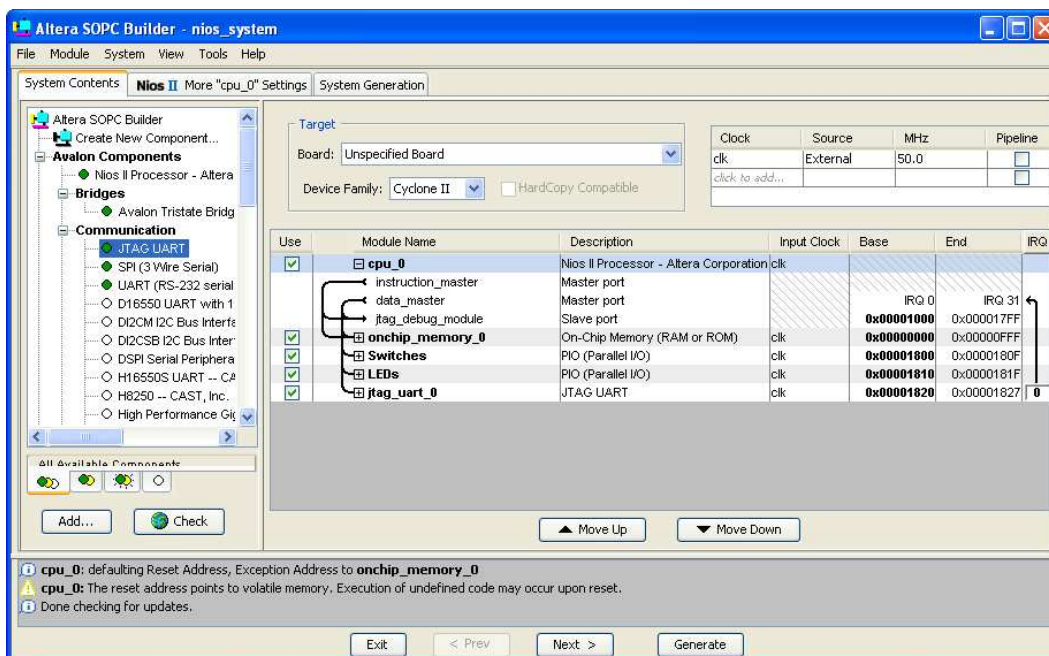

Figure 14. The final specification.
11. The base and end addresses of the various components in the designed system can be assigned by the user, but they can also be assigned automatically by the SOPC Builder. We will choose the latter possibility. So, select the command (using the menus at the top of the SOPC Builder window) System > Auto-Assign Base Addresses, which produces the assignment shown in Figure 14.
A parallel I/O interface generated by the SOPC Builder is accessible by means of registers in the interface. Depending on how the PIO is configured, there may be as many as four registers. One of these registers is called the Data register. In a PIO configured as an input interface, the data read from the Data register is the data currently present on the PIO input lines. In a PIO configured as an output interface, the data written (by the Nios II processor) into the Data register drives the PIO output lines. If a PIO is configured as a bidirectional interface, then the PIO inputs and outputs use the same physical lines. In this case there is a Data Direction register included, which determines the direction of the input/output transfer. In our unidirectional PIOs, it is only necessary to have the Data register. The addresses assigned by the SOPC Builder are 0x00001800 for the Data register in the PIO called Switches and 0x00001810 for the Data register in the PIO called LEDs, as indicated in Figure 14.
You can find a full description of the PIO interface by opening the SOPC Builder window in Figure 14 and right-clicking on the module name of a PIO (either Switches or LEDs). Then, in the pop-up box select **Data Sheet** to open the document *PIO Core with Avalon Interface* which gives a full description of the interface. To use this facility you need to be connected to the Internet.